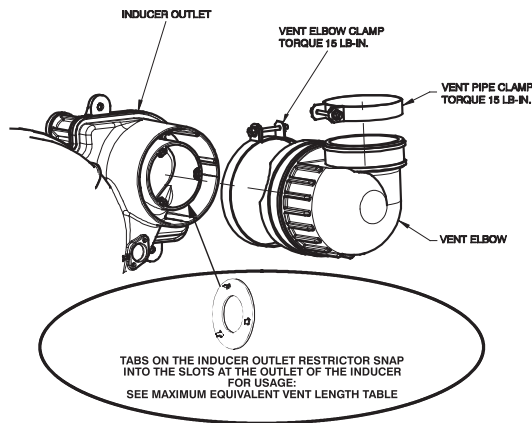

Fig. 49 – Inducer Vent Elbow
3. Tighten the clamp around the vent elbow. Torque the clamp to 15 lb-in. See Fig. 48 and Fig. 49.